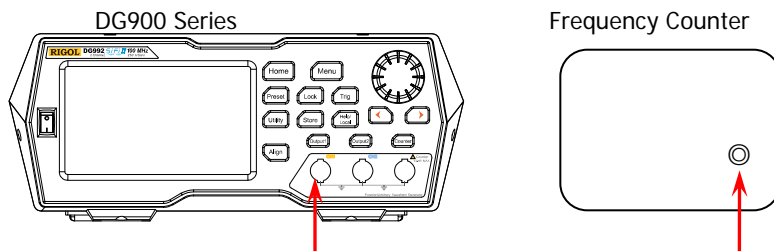

Figure 2-1 Connect DG900 and the Frequency Counter
1. Make sure that the environment temperature is between 18°C and 28°C and DG900 has been warmed up for at least 30 minutes. Connect the channel output terminal (take CH1 as an example; the test method is also applicable to CH2) of DG900 with the signal input terminal of the frequency counter using a dual-BNC cable as shown in Figure 2-1.